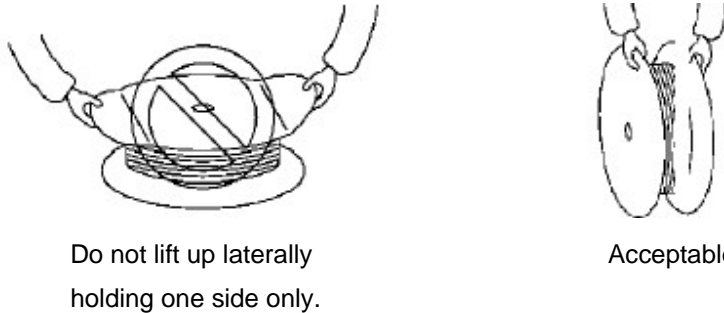

Fig. 4
- (1) Avoid leaving or carrying the contact reel in an open area without wrapping it in proper material.
- (2) Do not lift up and carry the contact reel by gripping one the side of reel, this may result in damage to the reel and contacts before use. (See Fig. 4)